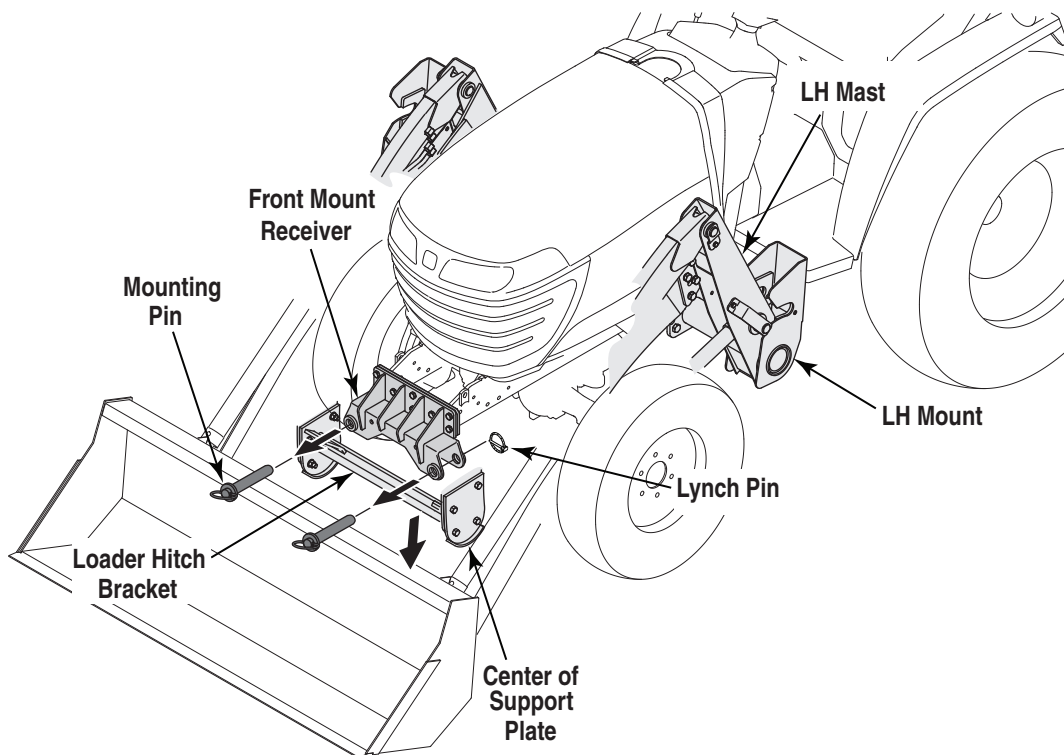

Figure 13
- Continue to carefully extend the boom cylinders (and roll back the bucket if necessary) until the center points of the support plates on the bottom of the loader hitch bracket at the front of loader hitch arms are resting on the ground (Refer to Figure 13). The support plates and bucket should be supporting the loader and the bottom of each mast should now be higher than the tubular bars of the loader mounts.
- Remove the two lynch pins and withdraw the two mounting pins that secure the loader hitch bracket in the front receiver. Refer to Figure 13.
- Continue raising the boom until center points of the support plates on the bottom of the loader hitch bracket are resting on the ground, the loader hitch arms and bucket are supporting the weight of the loader, and the bottom of the RH and LH masts have lifted off the tubular bars of the RH and LH mounts. Refer to Figure 13.